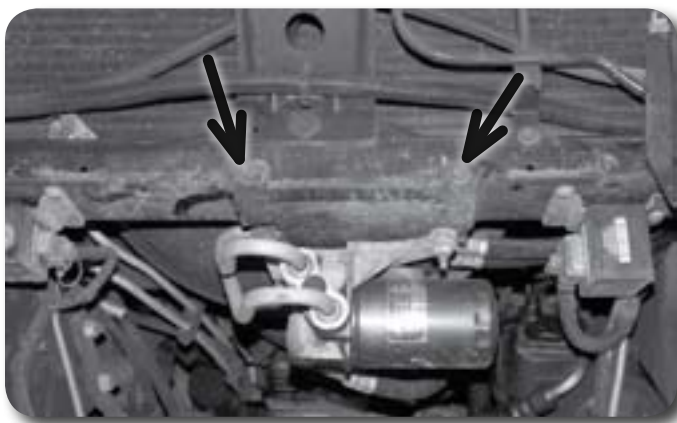

Figure 8
11. Disconnect the oil filter mounting bracket from the core support by removing the two shoulder bolts **Figure 8**.